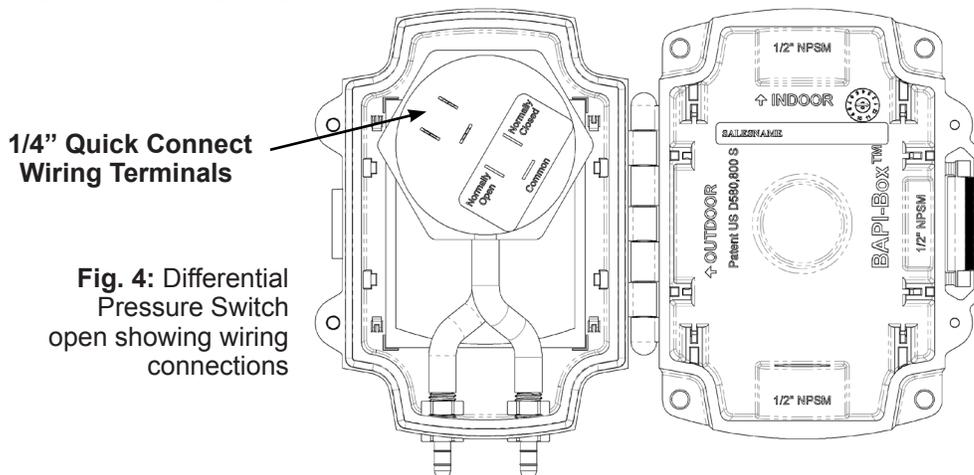

**Fig. 3:** Actual size mounting Template
1. Hold the unit vertical in its mounting location and mark the holes in the mounting feet or use the actual size mounting template shown in Fig. 3 below. (Note: If unit is mounted outside, it must be oriented horizontal with the latch down and the ports to the left.)